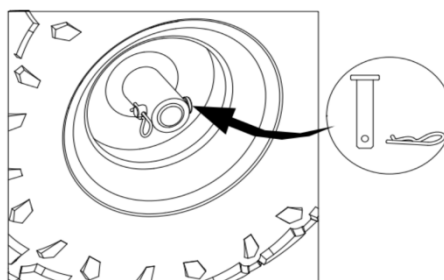

Figure 2
2. Insert bolt and dowel pin as indicated on Figure 2.